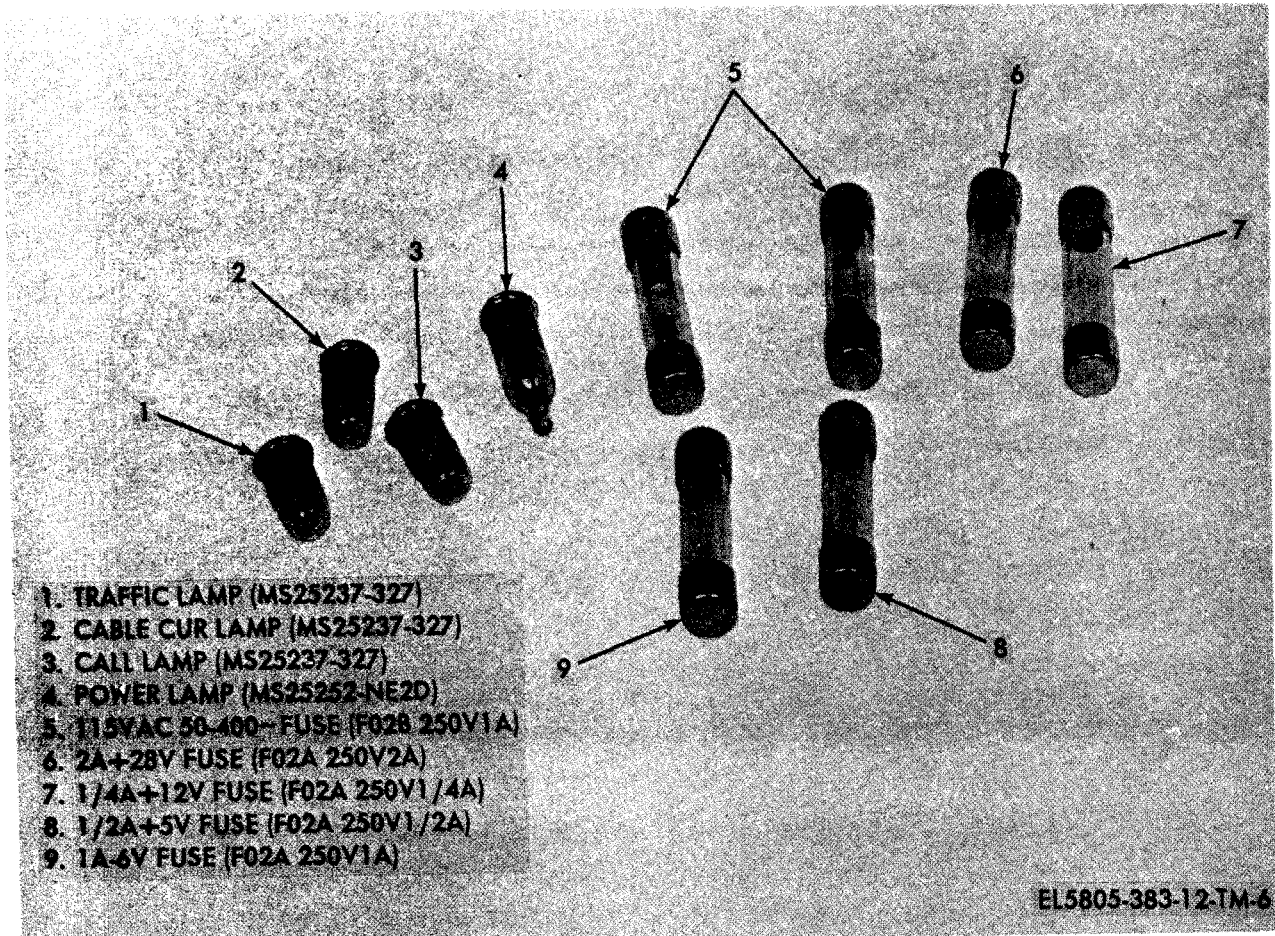

Figure 1-6. Front panel pluckout lamps and fuses.
f. *Replaceable Items.* The lamps and fuses on the front panel that are replaceable at organizational level are shown on figure 1-6.